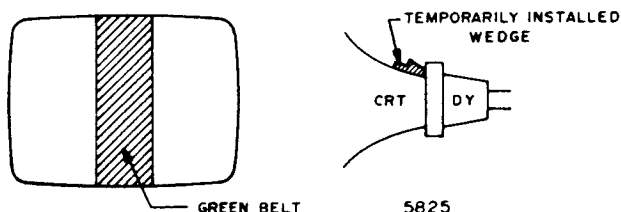

FIG. 4
8 Pull the Deflection Yoke backward so that the Green belt will appear. (See Fig. 4).
- 14 Turn all three cut off controls fully counterclockwise (CCW). Slowly turn up (CW) the Red cutoff control until a Red raster is just barely visible.
- 17 Insert a wedge temporarily as shown in Fig. 4 and adjust the angle of the Deflection Yoke.